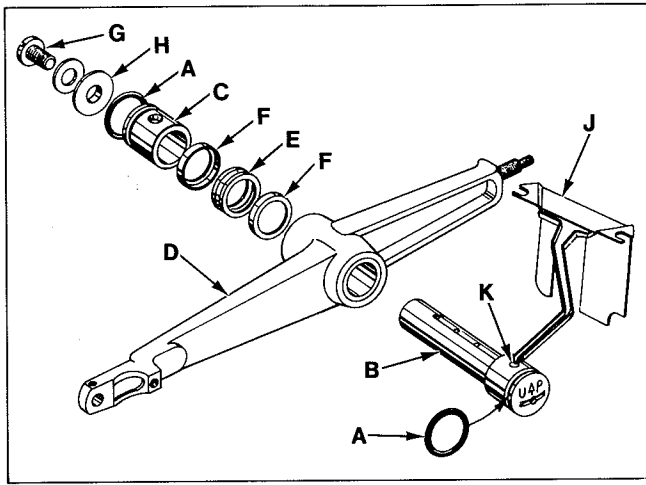

Fig. 21
1. Install "O" rings (A, Fig. 21) onto needle lever stud (B) and thrust collar (C).
2. With needle lever (D) in machine and positioned properly; insert stud (B) through hole in needle lever until its shoulder contacts the needle lever and the word "UP" on stud is in the upright position. While making sure no binding exists in the needle bar link, secure stud (B) with the front set screw in top of machine bed.
3. Install temper load ring (E) and compression cups (F) onto stud (B), then push ring and cups through opening in machine bed.
4. Install thrust collar (C) onto stud (B) being careful not to damage "O" ring. Compress components together by tightening screw (G) until washer (H) bottoms against stud (B). Secure stud (B) in position using the rear set screw in top of bed.
5. To check temper load ring for proper compression, remove screw (G) from stud (B) and loosen rear set screw in top of bed. Thrust collar (C) should spring out .003 - .007 inch (.08 - .18mm). Compress load ring in reverse order, then tighten rear set screw.
6. With indented "UP" on stud (B) in upright position, install bearing oiler (J) so its hook sets in oil supply hole (K) of stud. When hook and stud are secured in their proper positions, the proper amount of oil will be channeled to stud for lubricating needle lever (D).